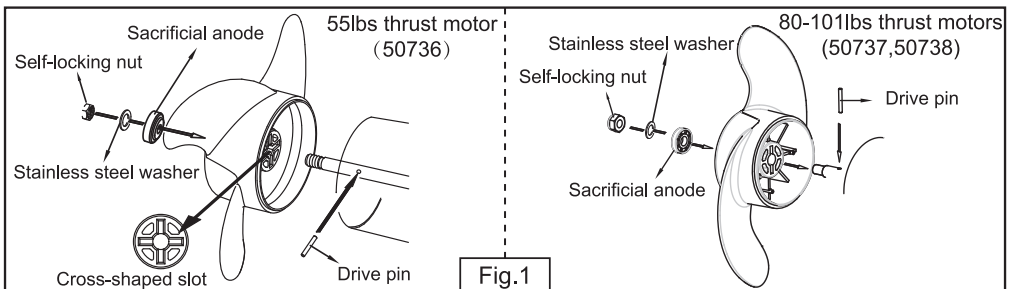

Fig.1
1. Install the drive pin (drive pin and cross-shaped slot in the propeller must align in order to correctly fit the propeller to the motor), anode, washer and self-locking nut onto the drive shaft. (Fig. 1)